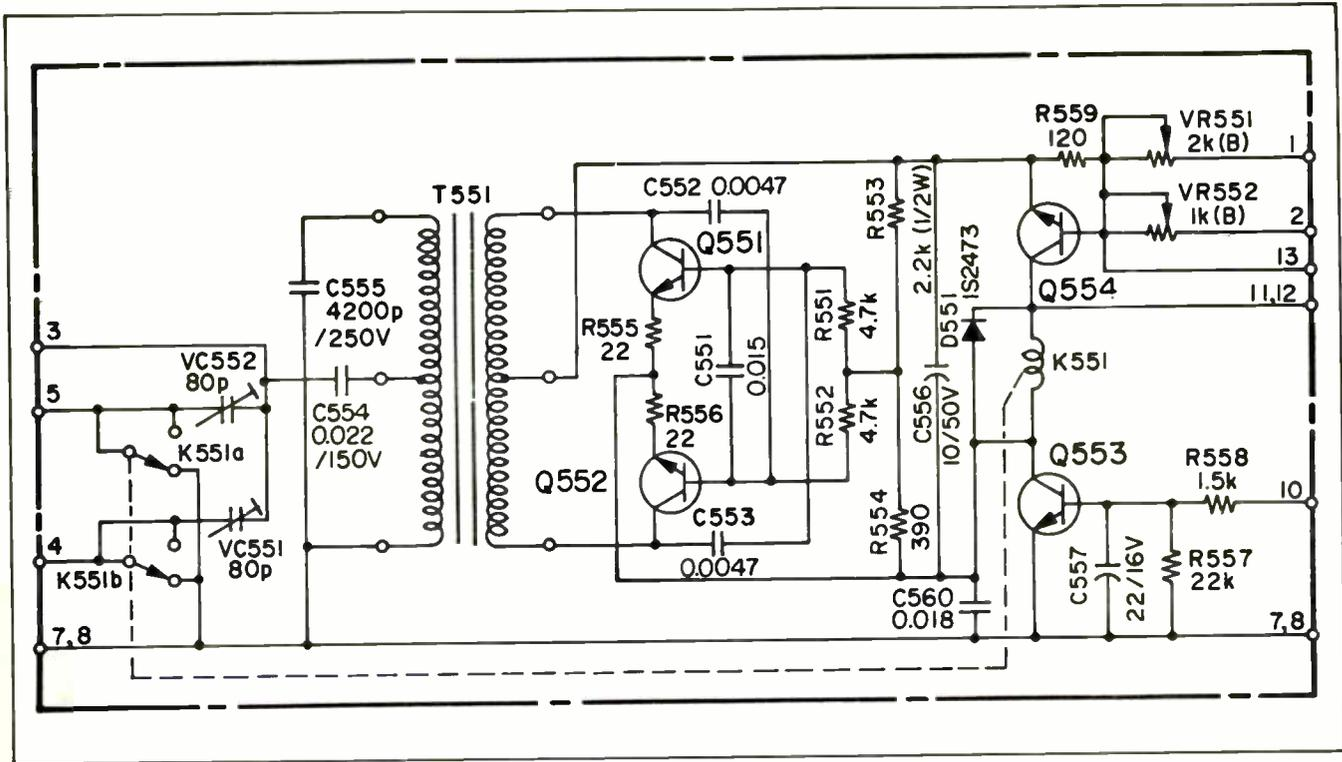

Figure 4-14. Bias Oscillator Schematic
**4-25. Bias Oscillator.** Refer to schematic, Figure 4-14. The bias oscillator is a push-pull oscillator with low distortion output. Bias frequency is 100 kHz.